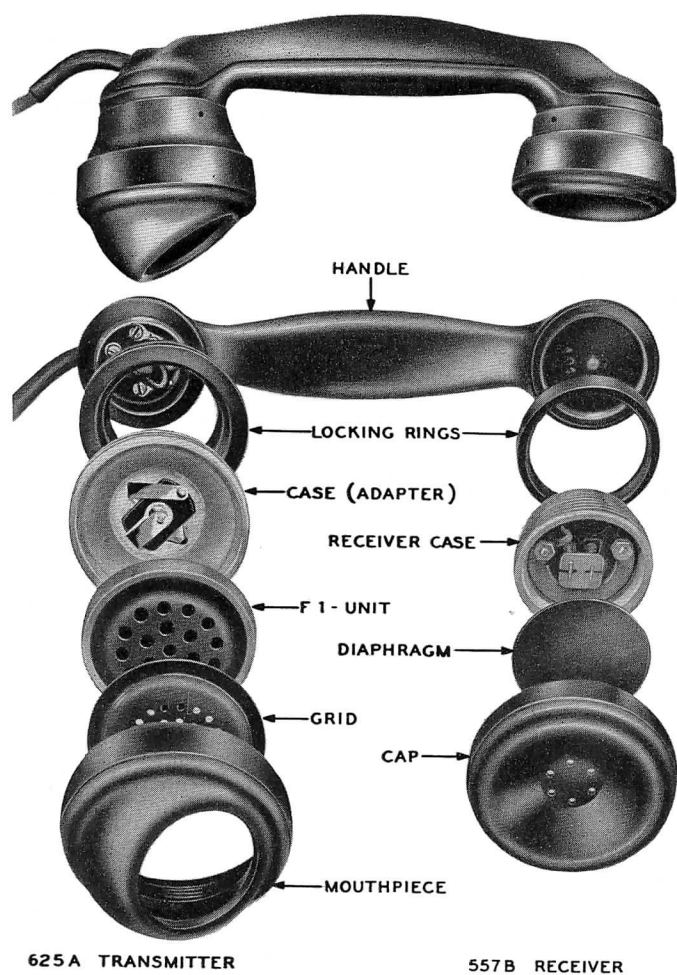

Fig. 1—E-Type Handset
- 2.01 The three basic types of handsets are the E, F, and G types shown in Figs. 1, 2, and 3, respectively.